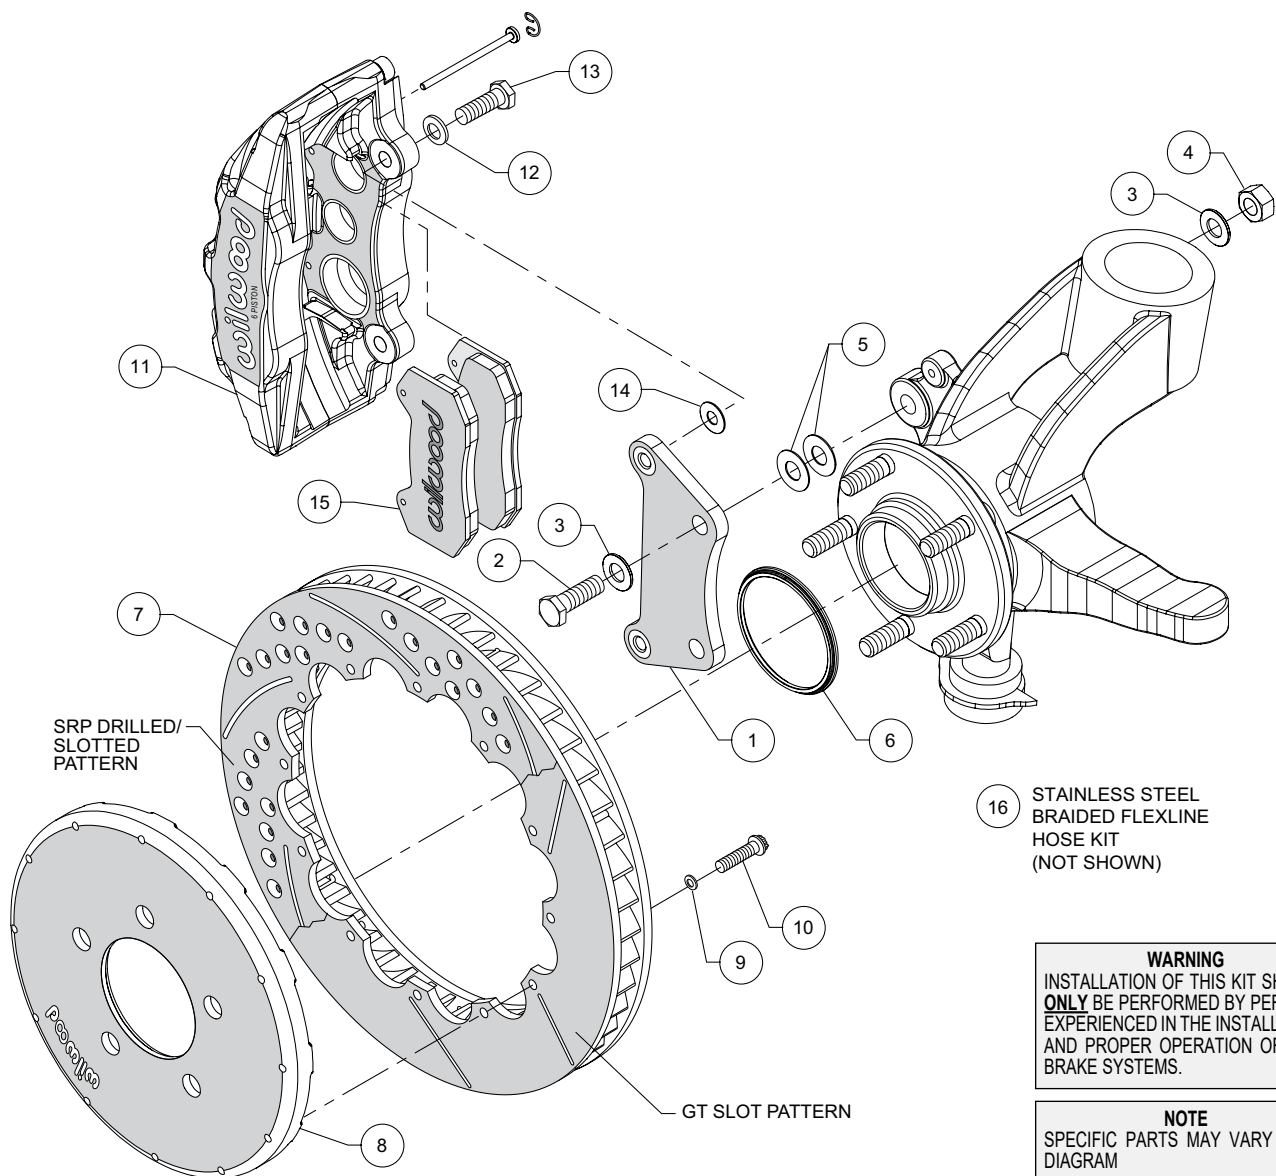
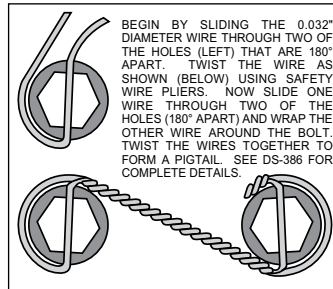

Figure 1. Typical Installation Configuration
Figure 3. Safety Wire Diagram
**NOTE:** Numbers in parenthesis refer to the parts list and Figure 1 on the preceding pages.
- Orient the caliper mount bracket (1) as shown in Figure 1 and Photo 1, and install using bolts (2), washers (3), and nuts (4). Place two .033" thick shims (5) on each bolt between the bracket and caliper mounting bosses, Figure 1. Ensure that the flanged heads of the clinch nuts in the bracket are facing outboard, Photo 1. Temporarily tighten the mounting bolts. **NOTE:** The bracket must fit squarely against the mount bosses on the upright. Inspect for interference from casting irregularities, machining ridges, burrs, etc. Remove bolts one at a time, apply red *Loctite*® 271 to the threads and torque to 60 ft-lb.
- Orient the rotor (7) and the hat (8) as shown in Figure 1 and Photo 2. Attach rotor to hat using bolts (10) and washers (9). Apply red *Loctite*® 271 to the bolt threads and torque to 155 in-lb using a criss-cross pattern. For an added measure of security, the bolts may be safety wired using standard 0.032 inch diameter stainless steel safety wire as shown in Figure 3. Please refer to Wilwood's data sheet DS-386 (available at [www.wilwood.com/Pdf/DataSheets/ds386.pdf](http://www.wilwood.com/Pdf/DataSheets/ds386.pdf)) for complete safety wire installation instructions.
- Slide the rotor registration adapter (6) onto the axle register on the axle hub with the smaller O.D. facing toward the rotor/hat (7/8), Photo 3. Slide the hat/rotor assembly onto the axle hub, Photo 4. **NOTE:** The hat must fit flush against the axle hub flange or excessive rotor run out may result. Install three lug nuts (finger tight) to keep the hat/rotor assembly in place while continuing with the installation.
- NOTE:** This kit contains distinct right and left hand calipers that must be mounted in a specific direction, as described below. Mount the caliper (11) onto the caliper mounting bracket (1) using bolts (13) and washers (12), as shown in Figure 1. Initially place one .035" thick shim (14) on each bolt between the caliper and the bracket, Figure 1 and Photo 5. Ensure that the caliper is mounted so the largest pistons are at the rotor exit end of the caliper, in relation to the direction of rotor rotation. Temporarily tighten the mounting bolts and view the rotor (7) through the top opening of the caliper. The rotor should be centered in the caliper, Photo 6. If not, adjust by adding or subtracting shims (14) between the bracket and the caliper. Always use the same amount of shims on each of the two mounting bolts. Once the caliper alignment is correct, remove the mounting bolts and caliper.
- Remove the two pad retaining pins from the caliper (11) by carefully popping out the pin retaining clips and sliding out the pins. Insert the brake pads (15) into the caliper from the bottom, Figure 1 and Photo 7, with the friction material facing the rotor. Secure the brake pads in place with the pad retaining pins and clips, Photo 8. Reinstall the caliper onto the caliper mounting bracket. Apply red *Loctite*® 271 to bolt threads (13), and torque to 40 ft-lb.